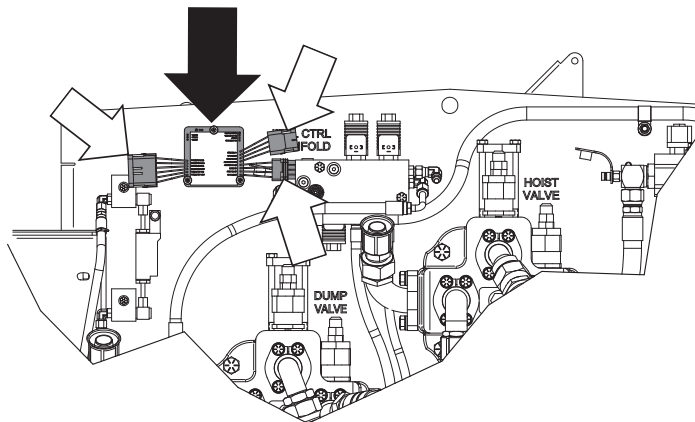

Figure 6-6 Hydraulic Fan Controller located on valve plate behind cab
3. Disconnect the three connectors on hydraulic fan can controller (see Figure 6-6).